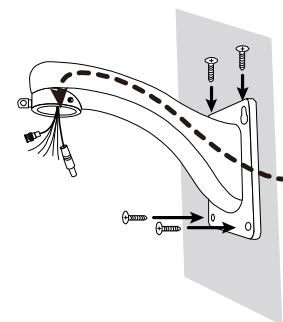

Figure 2
Step 3: Pass the cables to be connected through the bracket, and fasten the bracket to the wall (as shown in *Figure 2*).